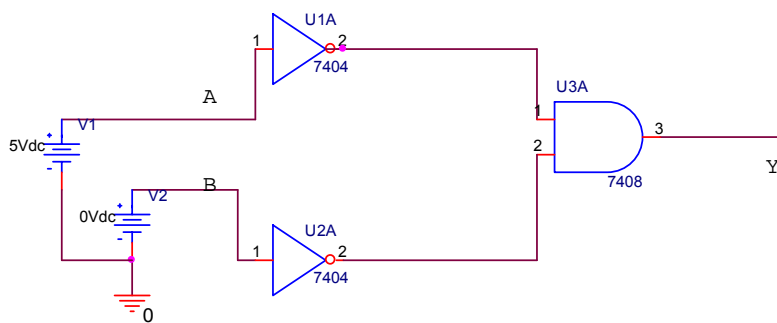

Fig 5-2
Step 1: Construct the circuit show in Fig. 5-1 (a) on the breadboard. Remember connecting pin 7 to ground and pin 14 to +5V as in fig. 5-2.